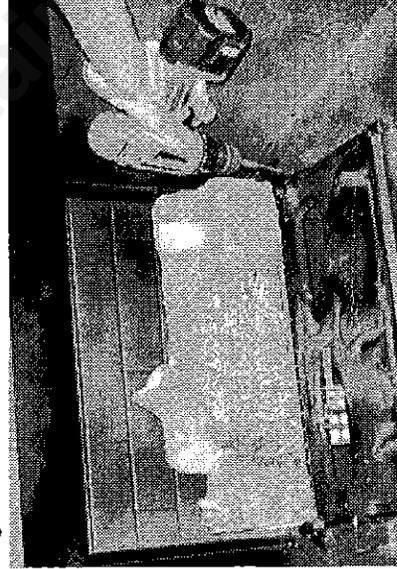

Figure 3.9 Remove Rear Log
- Remove four screws securing the rear log. See Figure 3.9. Lift rear log and remove from firebox.